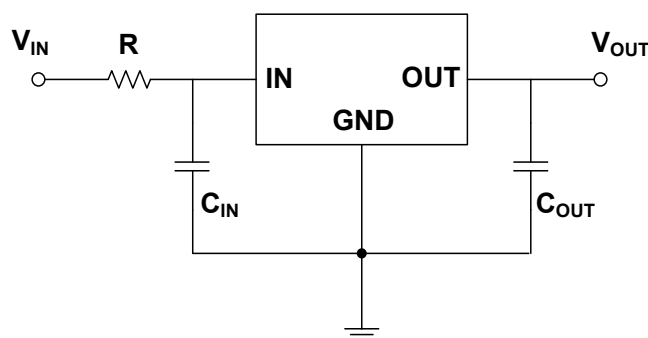

Figure 9-2. Resistance is used at IN
2. Place a resistor with appropriate resistance in series before the IN of the voltage regulator, which can help the voltage regulator share part of the energy in case of surge. The resistance value of the resistance should not be too large. The specific resistance value depends on the application of the circuit. Generally, the resistance value of this resistance does not exceed 20Ω . As shown in Figure 9-2.
For the CJ78M series, it is recommended that the input voltage should not exceed 17V and the peak voltage should not exceed 35V. **When the input voltage is greater than 17V, or the peak voltage that may be greater than 35V may appear in the practical circuit, it is recommended to adopt the circuit layout shown in Figure 9-2 in the circuit design.**
The CJ78M series can obtain better transient response with the help of output capacitance. However, if the output capacitor is relatively large, the surge current generated by the charging of the output capacitor will also be large at the moment of power on of the regulator, and the large surge current passing through the regulator may damage the internal circuit. When the output capacitance is large, adopting the circuit design shown in Figure 9-2 will reduce the possibility of damage to the device due to large surge current to a certain extent. It is recommended that the selection of output capacitor should not exceed 20 μ F. **If the selection of output capacitor exceeds 20 μ F, it is recommended to adopt the circuit design in Figure 9-2 to reduce the possibility of accidental failure of the device due to large surge current during power on.**
It is recommended that the output capacitor (C_{OUT}) should not exceed 20 μ F. When the output capacitor (C_{OUT}) exceeds 20 μ F, it is recommended to use the circuit layout shown in Figure 9-2. See *Large Output Capacitance* for more details.